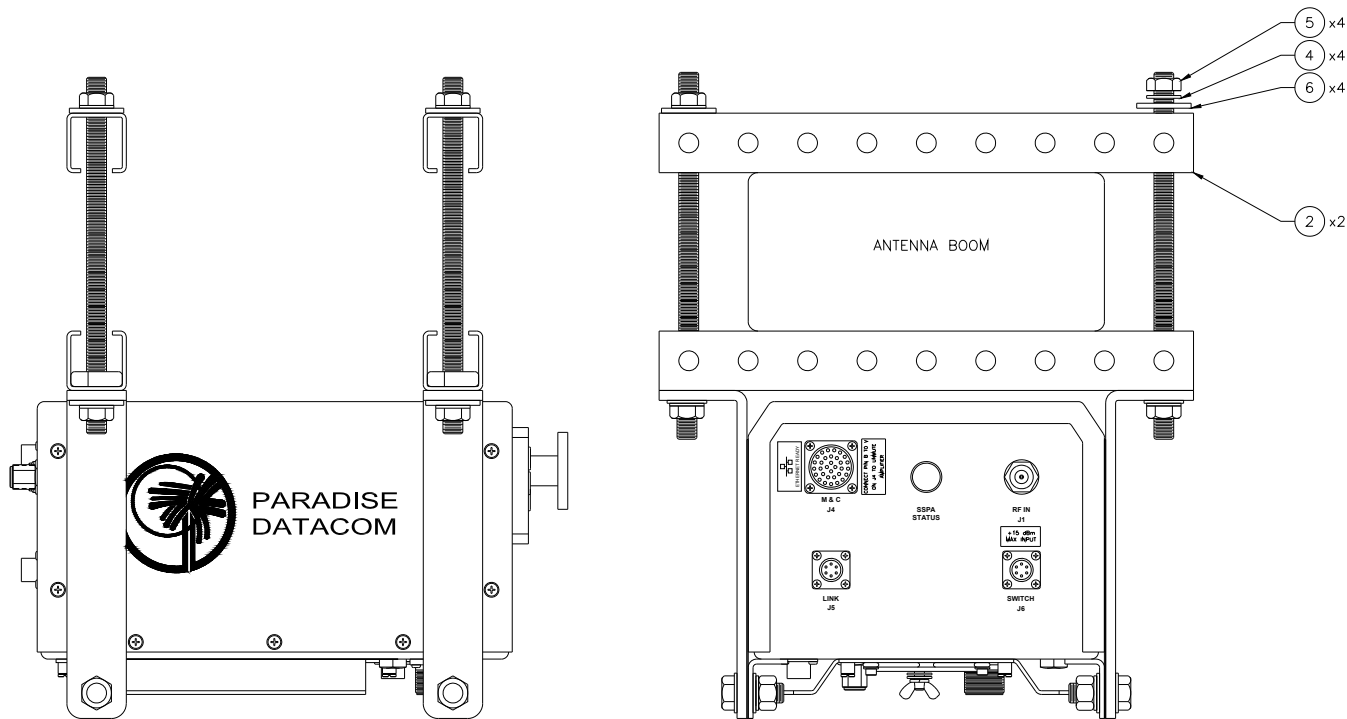

Figure 2-5: Mount Unit to Antenna Boom
- Bring the unit up tight under the boom (with the long axes parallel), sliding the All-Thread studs past the sides of the boom to show above the boom top. Place the remaining pieces of Uni-Strut (Item 2) open channel down across the boom onto the protruding All-Thread stud ends. Secure firmly with a flat washer (Item 6), lock washer (Item 4) and 1/2" nut (Item 5) on each of the four All-Thread stud ends. Looking from the end of the boom, the mounted unit should look as shown in **Figure 2-5**.